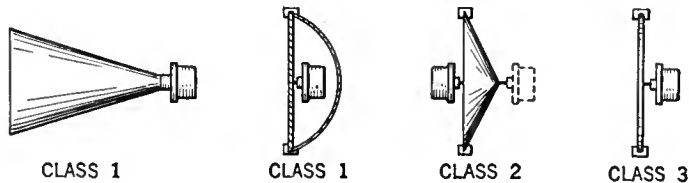

FIG. 4
This group of polar curves shows the directional characteristics of horns and also of flat diaphragms enclosed on one side, as shown in Class 1, Fig. 4, for frequencies of (1) 100 cycles; (2) 1000 cycles, and (3) 5000 cycles
These three types are shown schematically in Fig. 4. It may here be remarked that the directional characteristics of any given type are reversible, *i.e.*, they are the same for emission and reception.
In the group of polar curves shown above, we find the directional characteristics at (1) 100 cycles; (2) 1000, and (3) 5000 cycles, for open cone acoustic devices as shown in Class 2, Fig. 4